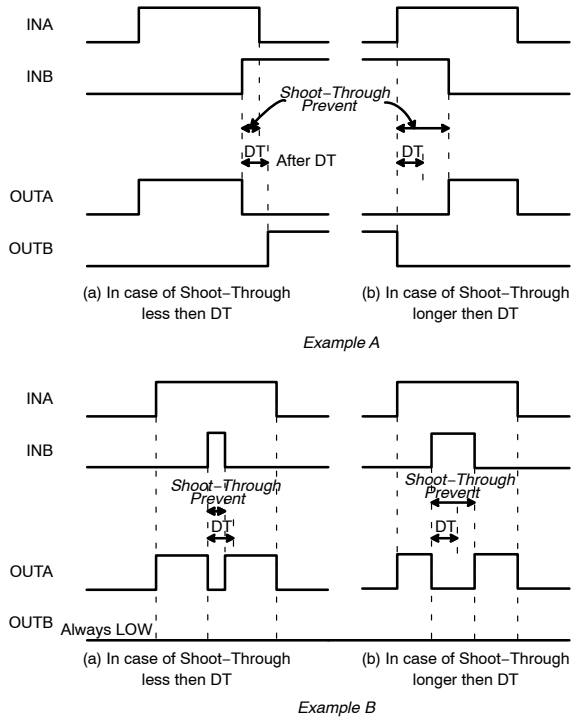

Figure 56. Concept of Shoot-Through Prevention
The cross conduction prevents both high- and low-side switches from conducting at the same time when the dead time (DT) control mode is in half-bridge type, as shown in Figure 56.